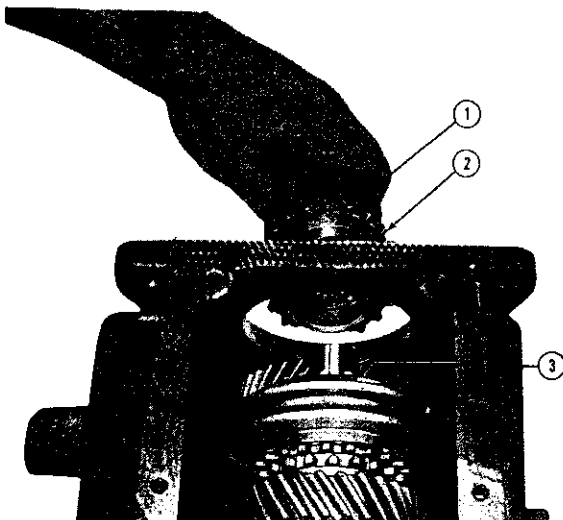

FIG. J-30—INSTALLING MAIN DRIVE GEAR ASSEMBLY
k. Install the main drive gear and oil retainer washer (slinger) into the case with the cutaway portion of the gear positioned downward toward the countergear assembly. Guide main drive gear onto the mainshaft using care not to drop the roller bearings, as shown in Fig. J-30.